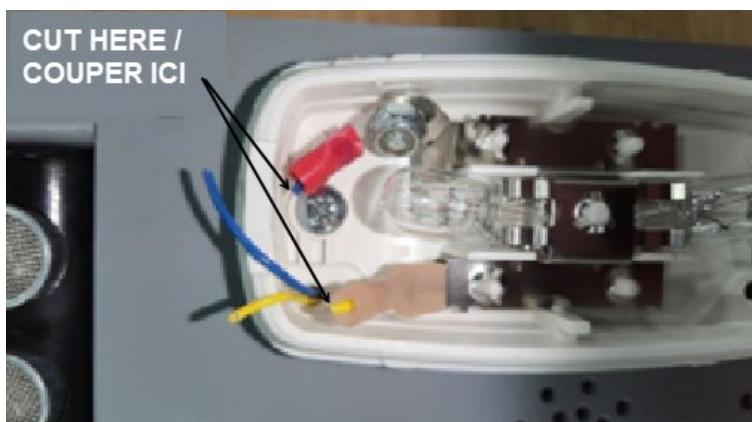

Figure 2
3. Use wire cutters to cut the yellow and blue wires as close as possible to the terminals on light unit. Figure 2.